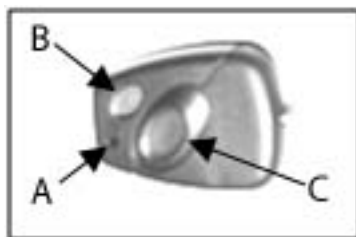

Figure 52 – Functions of the remote
3. Push on the green button (**B**) of the remote control (Figure 52).